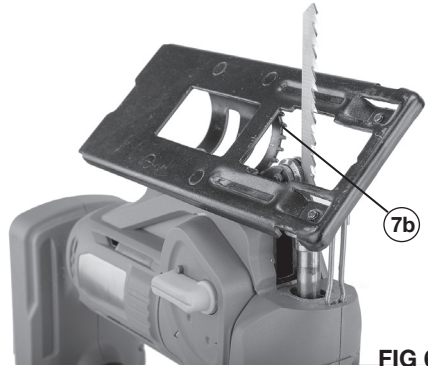
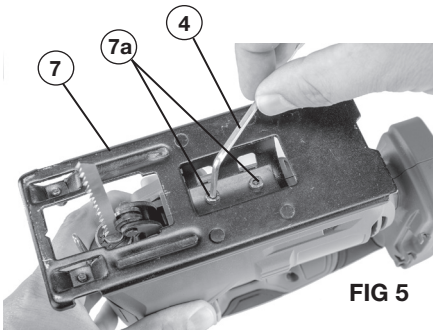

FIG 6
FIG 5
ADJUSTING THE BASE FOR BEVEL CUTS (FIG 5 & FIG 6)
- Using the included Allen wrench (4), loosen but do not remove the two screws (7a) on the bottom of the jig saw. See FIG 5.
- With the two screws loose, slide the base (7) backwards as far as it will go. Depending on the direction of bevel, adjust the base left or right to the desired bevel angle. The base has 7 positive stops at 0°, 15°, 30° and 45° Left and Right.
- After selecting the bevel angle, push the base forward, aligning the notch (7b) in the bevel angle with the indicator on the bottom of the jig saw. See FIG 6.